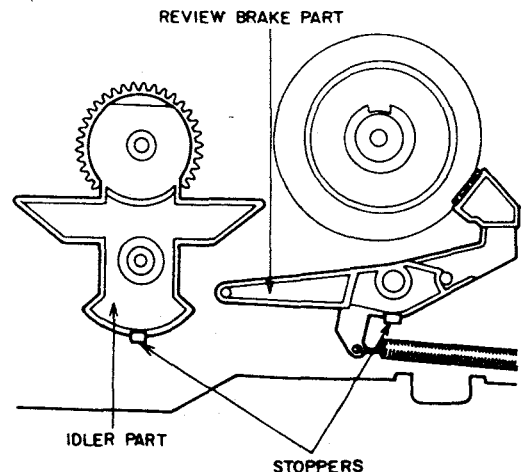

Fig. 3-9
- 2) Release the stopper of the IDLER PART as shown in Fig. 3-9, then remove it.